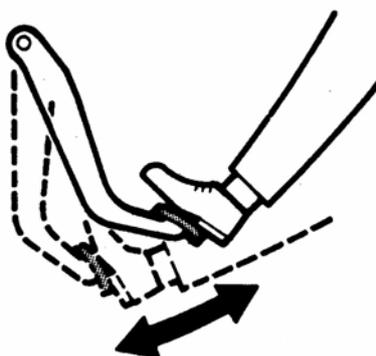

FIG.16-80
- (1) With engine stopped, depress brake pedal several times with the same load and make sure that pedal travel doesn't change. (FIG.16-80)